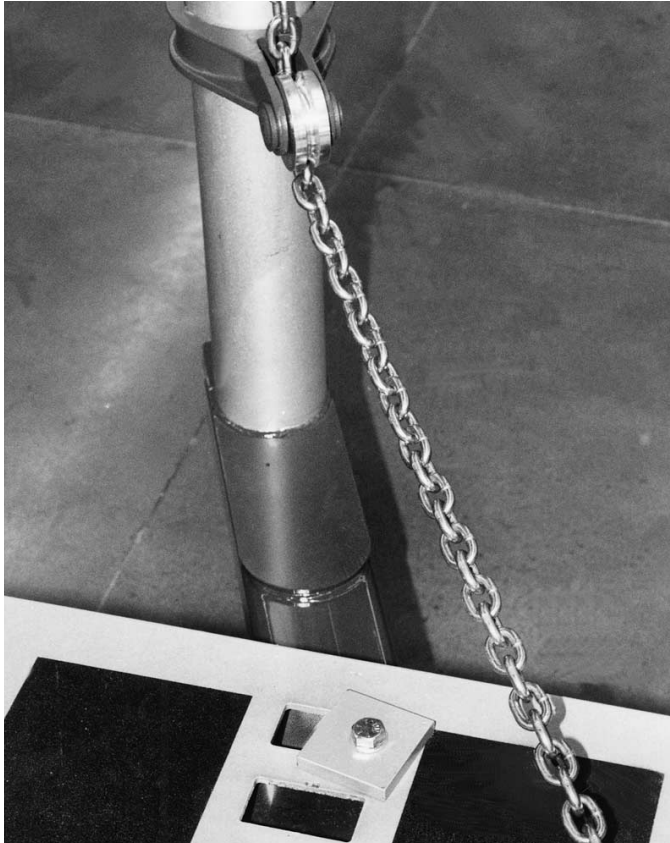
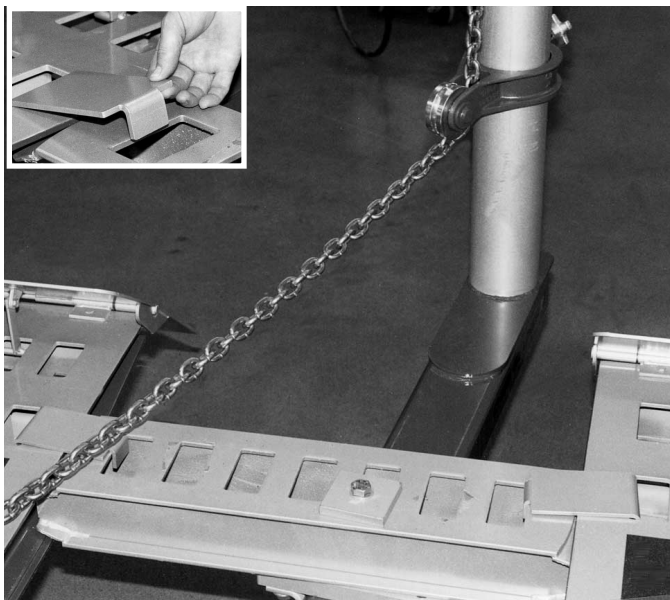

Figure 1
Figure 2
1. Auxiliary towers must be pinned or bolted to S21M at all times except when repositioning. Use outer tie down holes when pinning or bolting auxiliary tower to mainframe (see Figure 1) and use tie down holes in crossmember when pinning or bolting auxiliary tower at rear of machine (between loading ramps). (See Figure 2.)
IMPORTANT: Crossmember must be positioned as shown and crossmember locks (supplied with auxiliary tower) must be engaged. (See Figure 2 Inset.) After engaging crossmember locks, slide crossmember forward as far as crossmember locks will permit to prevent its movement during the pull. (See Figure 3.)